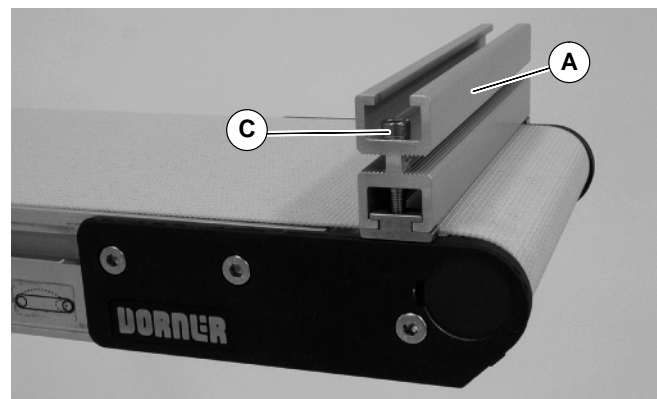

Figure 6
8. Install end stop with spacers (A of Figure 6) on end of conveyor with M5 screws (C). Tighten screws to 60 in-lb (7 Nm).